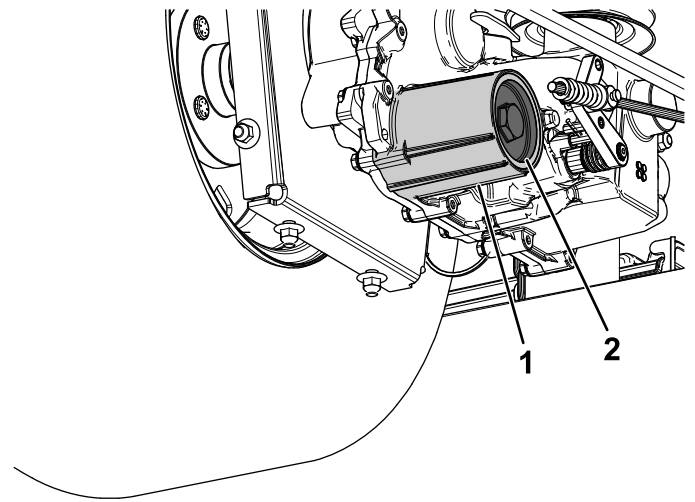

Figure 69
7. Remove the hydraulic-fluid filter cover from the transaxle to drain the fluid (Figure 69).